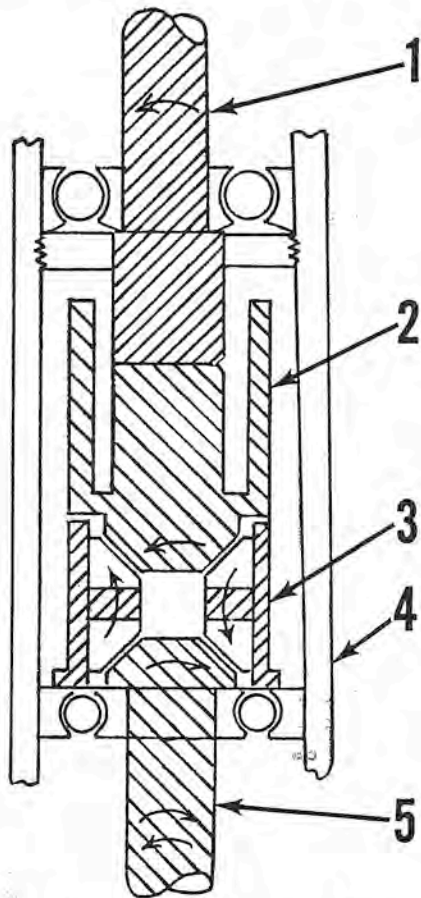

Fig. M63—Schematic view of the automatic transmission used on all models. Refer to text for complete description of method of operation.
OPERATION. Refer to Fig. M63. In normal operating position, the upper drive shaft (1) is connected to input drum and gear assembly (2) by the neutral spring. The input drum (2) and trunnion carrier (3) are locked together by the forward and reverse spring, and the entire transmission rotates as a unit. When the control lever is moved to the neutral position, the neutral pawl (4—Fig. M64) moves in to catch the extended upper end of neutral spring (11). When the spring is stopped, the rotative force of upper driveshaft (1—Fig. M63) tends to unwind the spring, releasing the connection between driveshaft (1) and input drum (2); and the input shaft rotates within the unit without transmitting power. When the control lever is moved to the reverse position, the reverse pawl (7—Fig. M64) moves inward into a notch in control sleeve (15). The control sleeve is attached to upper end of forward and reverse spring (16). Lower end of spring rests against the key (19) which is attached to trunnion car-
rier (25). When upper end of forward and reverse spring is stopped by the reverse pawl, the rotative force of the transmission unit releases the connection between input drum (2—Fig. M63) and trunnion carrier (3); and the trunnion carrier tends to rotate in the same direction at a slower speed. This further rotation plus the action of the spring key causes the forward and reverse spring to further expand, locking the trunnion carrier (3) to the driveshaft housing (4). Power is then transmitted through the differential gears (23—Fig. M64) to turn the lower driveshaft in the reverse direction. Because the transmission control shaft (3) is connected to the speed control lever, the clutches are engaged and disengaged only at idle speed. The helical-spring clutches are so designed that their holding power increases as torque increases so that power is transmitted by the spring clutches, relieving the operating pawls of overload.